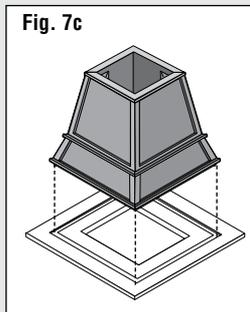

Fig. 7c
- Install Upper Tower Assembly on Upper Tower Base (Fig. 7c).